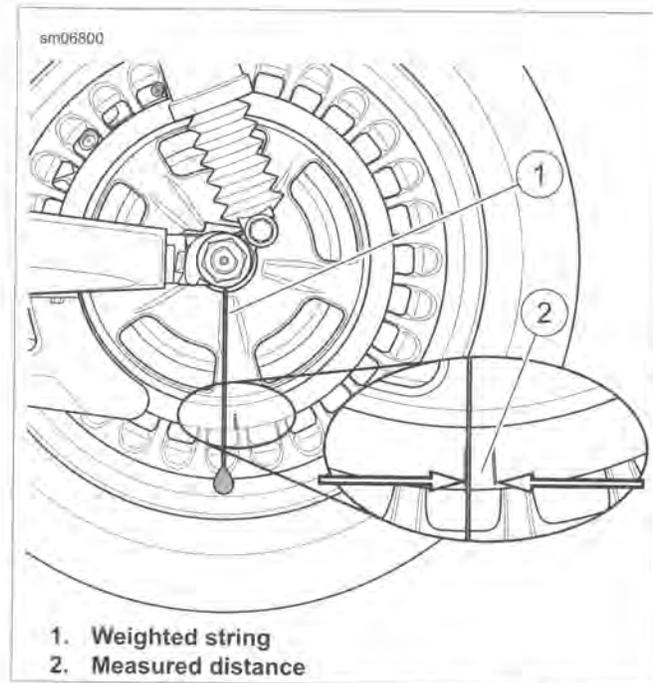

Figure 1-29. Check Compensator Wear
3. See Figure 1-29. Hang a weighted string (1) on the left axle spacer as close as possible to, but not touching, the rear sprocket.